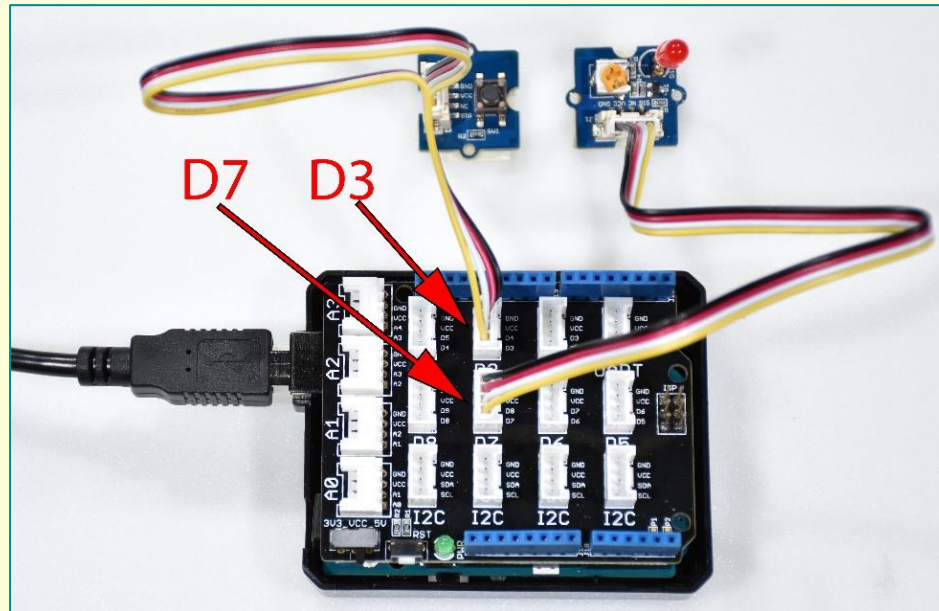

Figure 3-10. Connecting the push button module to the LED module.
1. Connect one end of a Grove cable to the Grove push button module and the other end to the socket labeled D3 as shown in Figure 3-10.
2. Connect one end of a Grove cable to the LED module and the other end to the socket labeled D7 as shown in Figure 3-10.